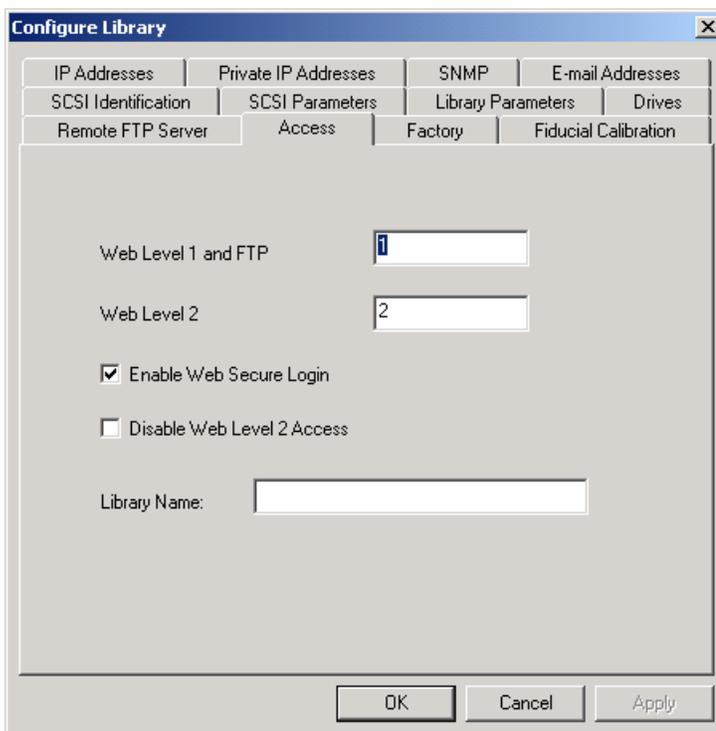

Figure 7-12: Configure Library Dialog Box—Access Tab
1. Click the **Access** tab to bring it to the front (Figure 7-12).